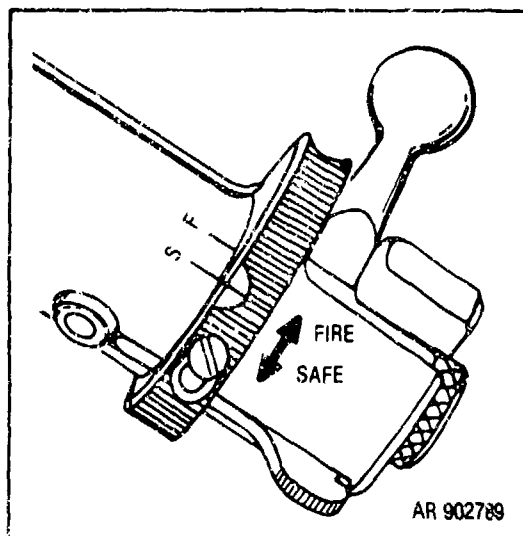

Figure 9-13. Operation of safety.
*b. Firing.* Rotate safety to fire position (fig 9-13). Depress the trigger by pulling the lanyard, or if the lanyard ring assembly is not installed, by placing the thumb on the trigger and the forefinger on the opposite side of the receiver to prevent lateral movement of the barrel when trigger is depressed.